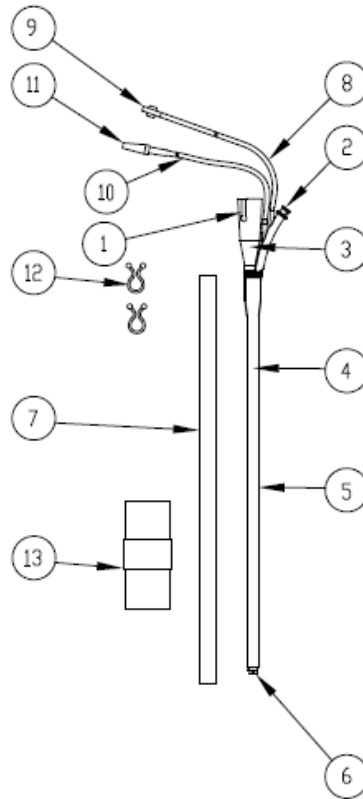

Figure 3-4: TV-1.5 Slide-On® EndoSheath® Technology
- The **TV-1.5 Slide-On® EndoSheath® Technology** (see Figure 3-4 on page 16) has a 1.5mm (4.5Fr) channel that supports insufflation and suction, but cannot accommodate the insertion of accessory devices.
The **TV-1.5 Slide-On® EndoSheath® Technology** shown in Figure 3-4 is a sterile, disposable barrier for the Cogentix Medical **TNE-5000** Flexible Video Esophagoscope. The Sheath isolates the endoscope from contact with patient fluid and material during the procedure, and supports air insufflation and suction.